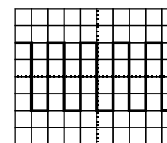

Figure 3
● Model: AT7340 (Figure 3)
- Set the switch AC-GND-DC in AC state. A waveform as fig.3 will appear on screen.